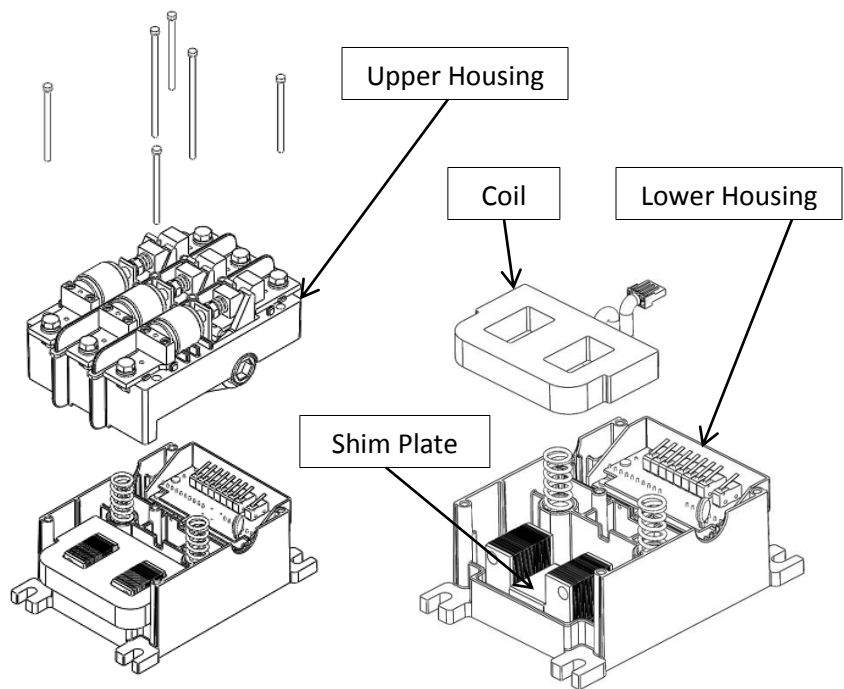

FIGURE 8
4. Remove the (6) six screws that secure the Upper Housing to the Lower Housing by first removing the (4) four outer screws and then (2) center screws. **NOTE** – removing the center screws will release the Return Springs. Carefully remove the Upper Housing leaving the Return Springs in the Lower Housing (FIGURE 8).
7. Carefully replace the Upper Housing, ensuring that it is orientated correctly and that the Return Springs are seated on the outer two bumps on the bottom of the Contact Operator (FIGURE 10). Replace the (6) screws that secure the Upper Housing. Tighten the screws equally in a diagonal pattern approximately two turns at a time until tightened to 15-20 inch-lbs in the same diagonal pattern (FIGURE 8).